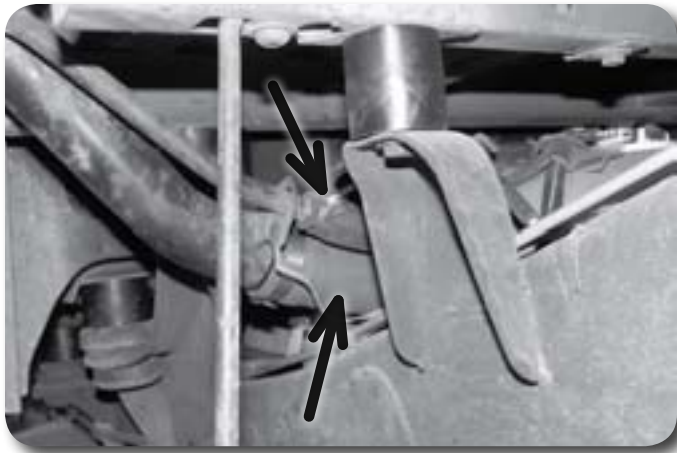

Figure 34
55. Install the filler neck assembly in the vehicle and attach the filler and vent hose to the fuel tank with the provided hose clamps Figure 34.